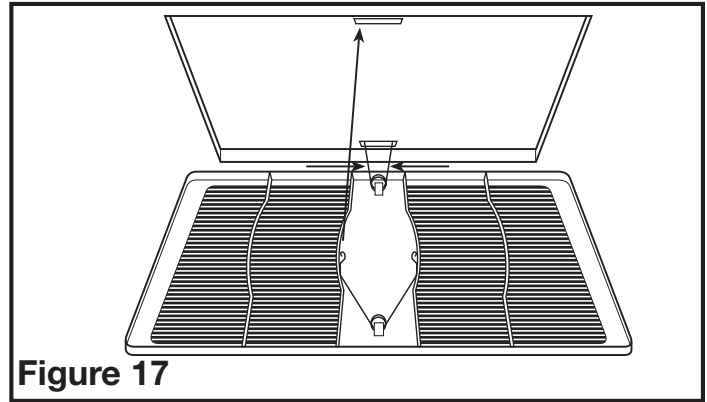

Figure 17
- 5a. **STANDARD AND HUMIDITY SENSING MODELS:** Install the grill by squeezing the two ends of the springs together and installing them up into the slots on the fan's housing. Push the grill up into position (**Figure 17**).